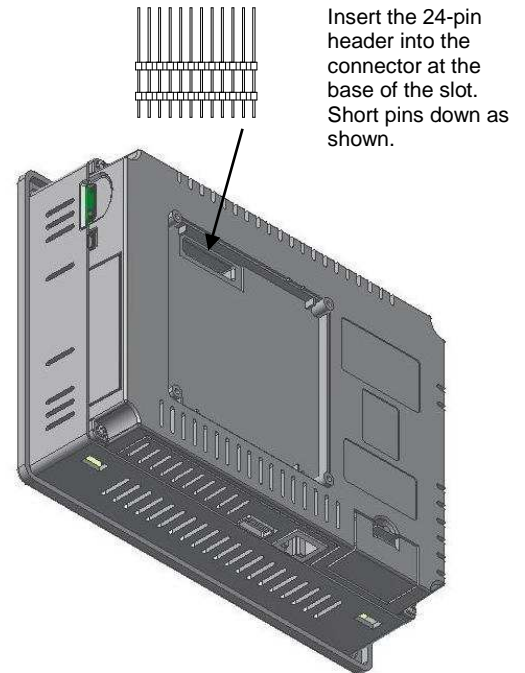

Figure 2. XL6/10 Showing the I/O connector slot..
3. If the model is an XL6 or XL10 then put the 24 pin header in the I/O connector as shown in Figure 2 below. Place the blank Adapter board in the I/O board position taking care that all twenty four pins of the I/O header pass through the board (Figure 2 below).
4. Plug the communication board onto the 24-pin connector. Make sure all the pins are properly aligned (Figure 2).
6. Place the four screws back in the holes and turn the screw slowly counter clockwise until it clicks into the threads. This prevents the screw from being cross-threaded. Now, turn the screw clock-wise until the cover is firmly secured. Repeat for all four (4) screws. Do not tighten the screws to more than 0.4Nm